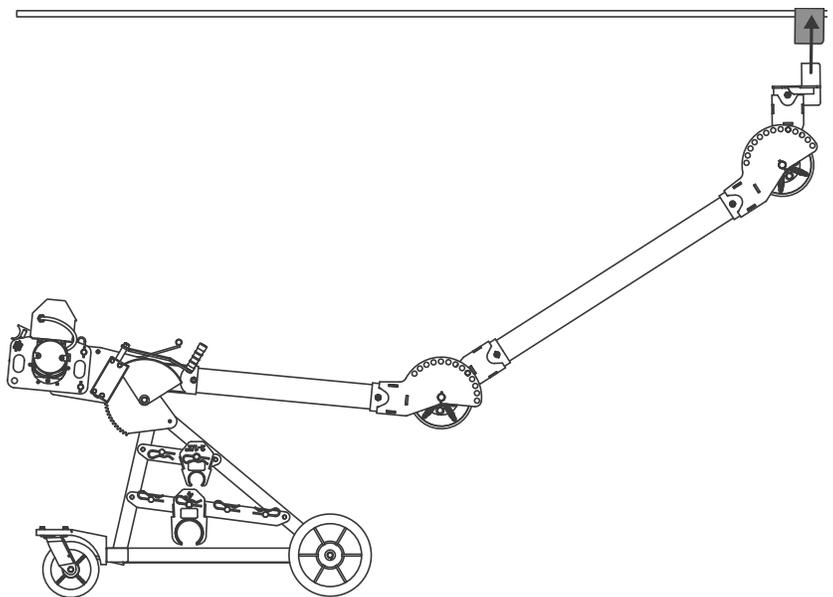

Figure 14: Adjust Boom to Typical Down Pull Setup
8. Turn crank to adjust the back boom until the nose is just below the conduit to be pulled from. (Fig. 14)